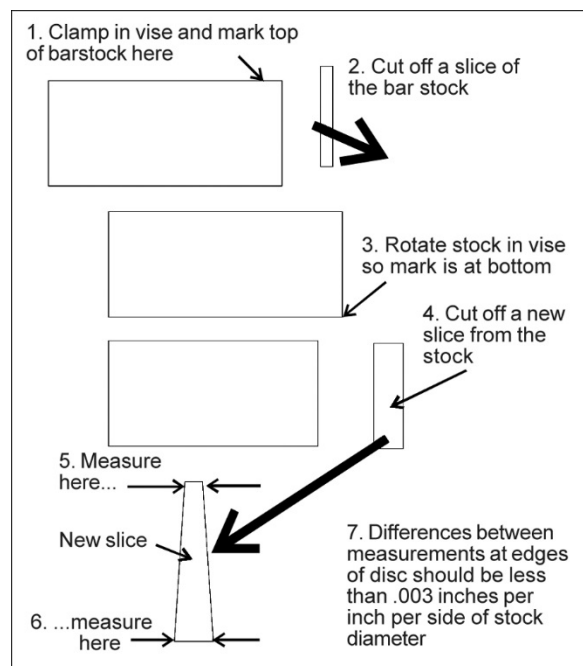

Figure 7-4: test cut
1. With bar stock securely clamped in the vise, make a cut through the bar stock (see Figure 7-4).